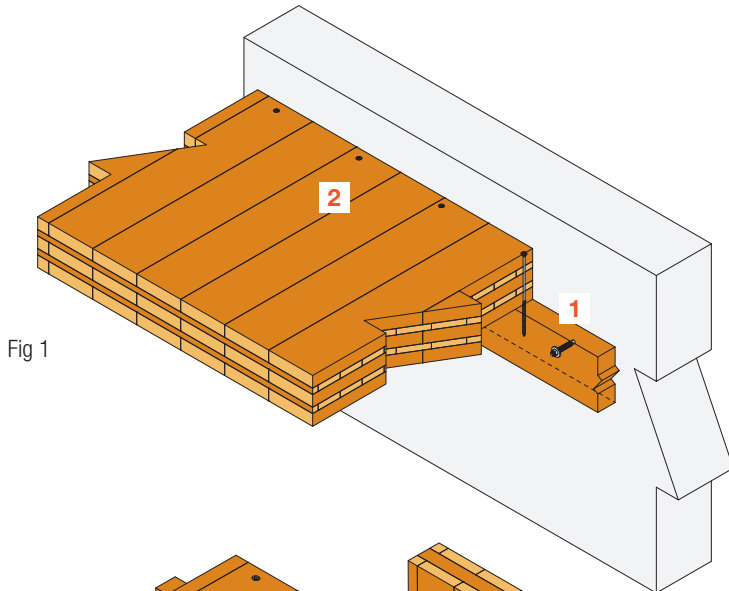

Fig 1
- Concrete substrate: preferably use throughbolts with a wide washer, such as **WA-RL** (Fig 1).
- Timber wall plate: fix the floor with **ESCR** or **ESCRC** screws (Fig 1 or 2).